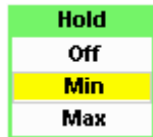

Figure 3-32 Hold pop-up
- 3 Press  to display the **Hold** pop-up, and use the ,  to highlight **Min** or **Max** (see Figure 3-32).